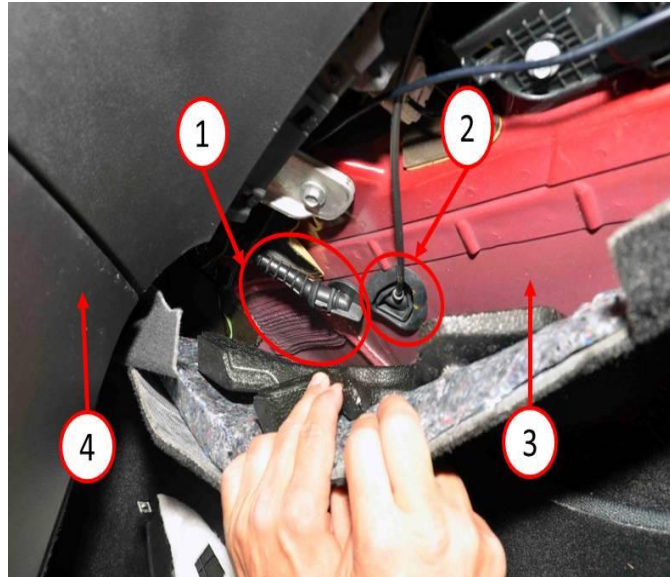

Fig. 6 Inspect HVAC Drain Tube
NOTE: If HVAC Grommet Seal is not seated (1), A/C condensate can leak onto floor panel. Grommet must be fully seated (Fig. 6).